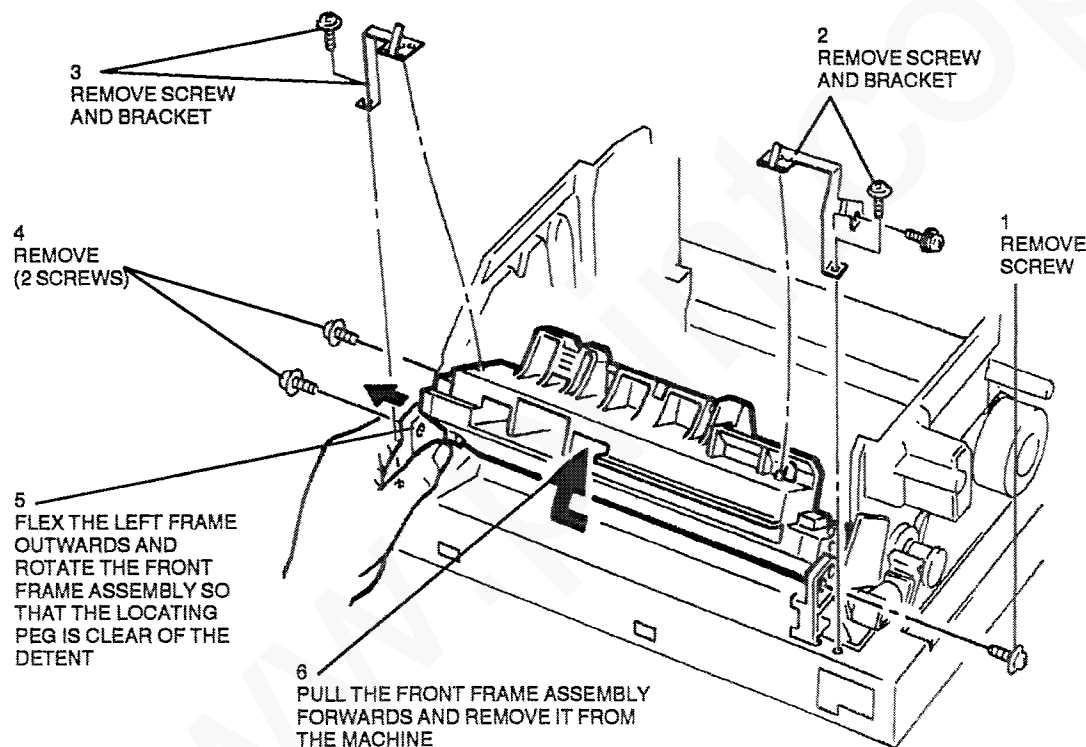

Figure 1. Front frame assembly removal.
8. (Figure 1) Remove the front frame assembly.